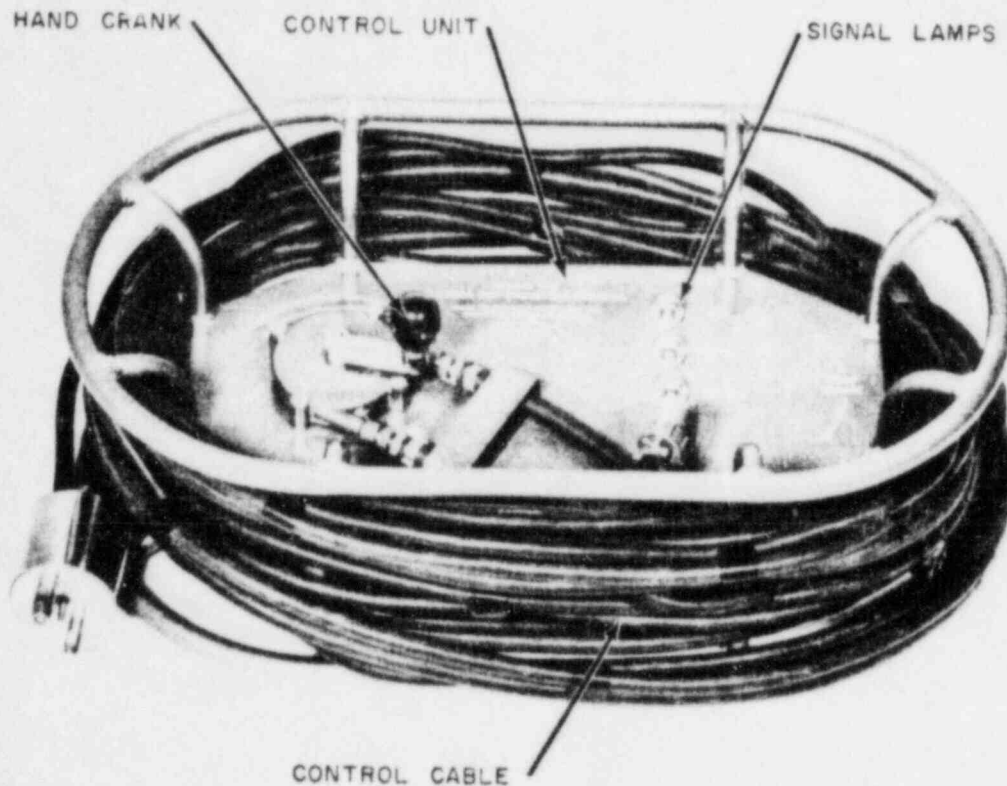

Figure 3. Control Assembly
1.4. Control Assembly (See Figure 3.)